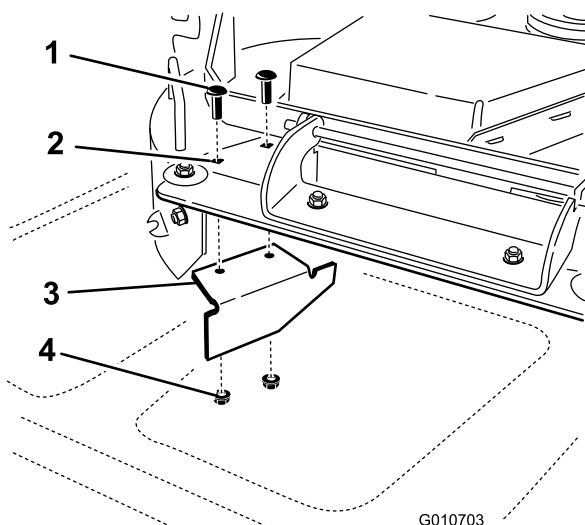

Figure 39
14. Locate the cut off baffle in the loose parts bag. Remove the fasteners at the rear holes of the discharge plate. Install the baffle at the side discharge opening on the mower deck (Figure 39).